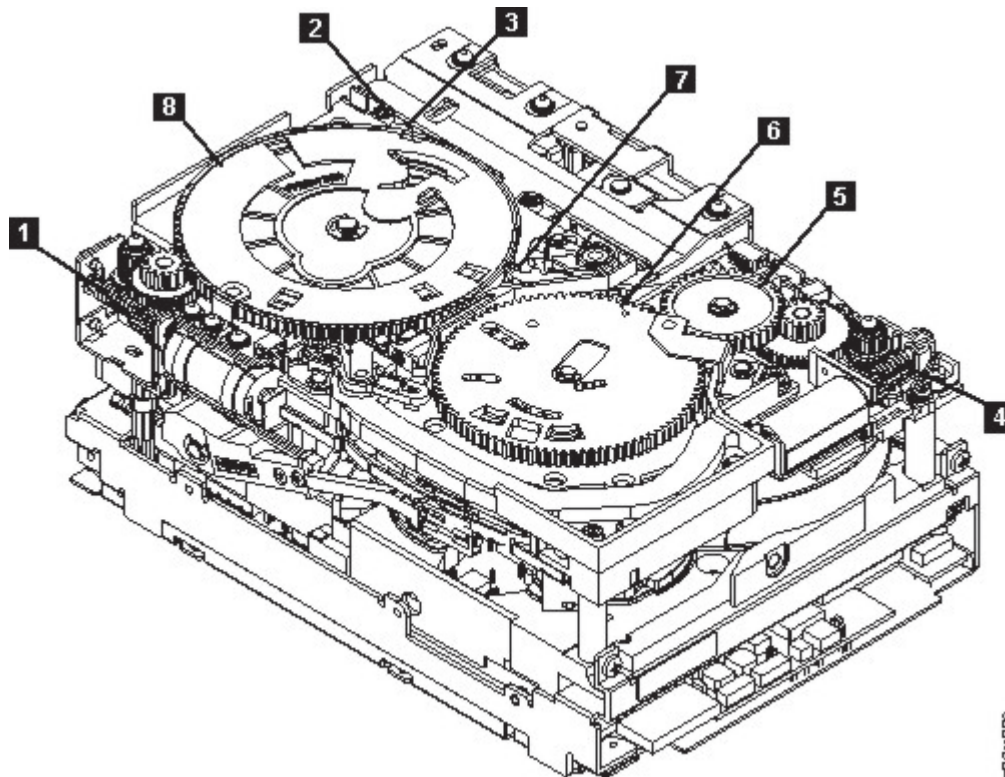
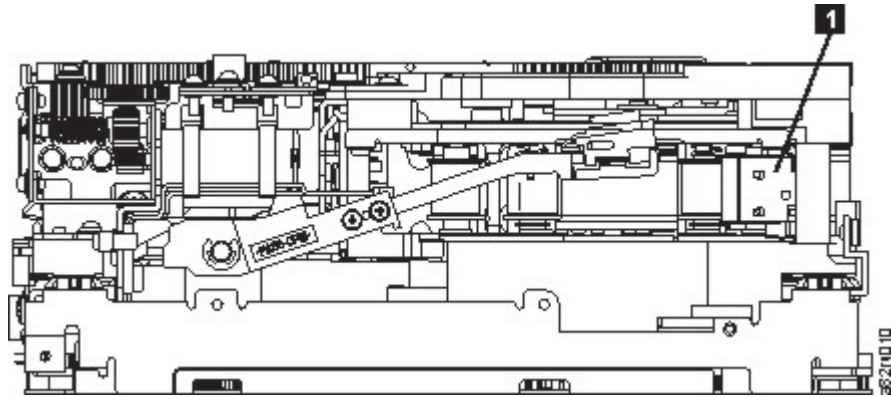

Figure 114. Drive with cover removed to reveal gear train.
Figure 115. Leader Block Assembly (LBA)
6. Locate the threader motor worm gear (4 in Figure 114 on page 190) on the rear of the drive. Use your finger to rotate the threader motor worm gear and slowly rotate the threader mechanism gear (6 in Figure 114 on page 190) clockwise.
This action rotates the threader motor worm gear (4 in Figure 114 on page 190) clockwise, drawing the LBA into the cartridge.
7. As the tape leader block assembly (LBA) is secured in the cartridge, you hear the LBA retention spring clips click into place. If you do not hear the click, continue rolling until the threader motor worm gear (**4** in Figure 114 on page 190) stops. The LBA is in the correct position.
- a) Loader mechanism gear (**6** in Figure 114 on page 190) nearest the front of the drive that actuates the cartridge loader mechanism.
- b) Position of the rotate stub (**3** in Figure 114 on page 190).
- c) Front loader motor worm gear (**1** in Figure 114 on page 190). Rotating this gear allows the loader mechanism gear (**8** in Figure 114 on page 190) to turn.
9. Rotate the loader motor worm gear (**1** in Figure 114 on page 190) to turn the threader mechanism gear (**6** in Figure 114 on page 190) counterclockwise. Continue turning until the rotator stub (**3** in Figure 114 on page 190) loses contact with the lever (**7** in Figure 114 on page 190). This action releases the LBA leader pin.
10. Rotate the threader motor worm gear (**4** in Figure 114 on page 190) to turn the threader mechanism gear (**6** in Figure 114 on page 190) counterclockwise. This action moves the LBA out of the cartridge and past the read/write head. Stop this rotation when the LBA is near the tape guide roller nearest the rear of the drive that is shown as **1** Figure 115 on page 191.
11. Continue rotating the loader motor worm gear (1 in Figure 114 on page 190) until the rotator stub (3 in Figure 114 on page 190) is positioned as shown. Notice that the rotator stub (3 in Figure 114 on page 190) is nearly aligned with the cartridge loader tray guide bearing (2 in Figure 114 on page 190).